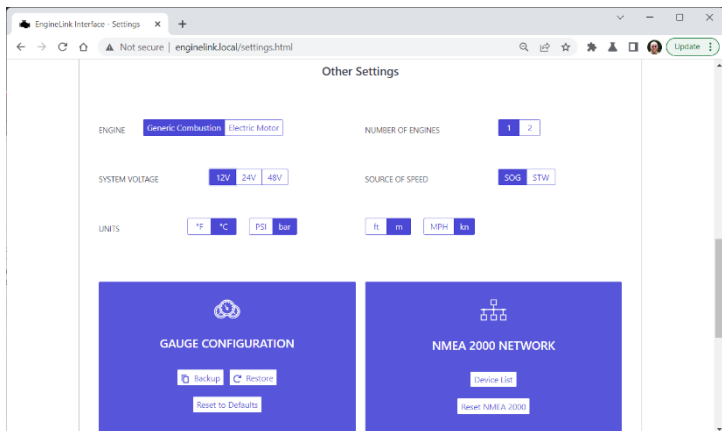

Figure 14
- Engine and Units Settings (Fig 14)
By default EngineLink is configured for a Single, Combustion Engine, on a 12v DC system, using the GPS SOG for speed and set to display European Metric Units. All of these can be easily changed in the Other Settings section as shown in Fig 14.